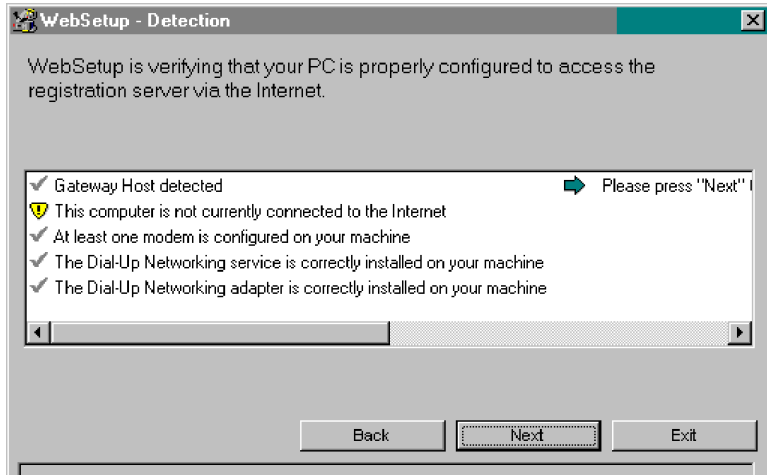

Figure 15: Websetup - Detection
4. Websetup will first detect the Gateway and the modem. See Figure 15.